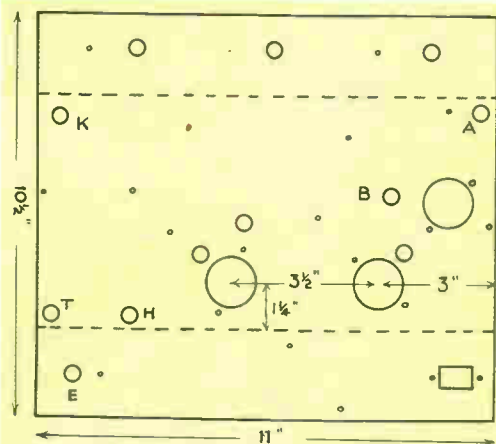

Fig. 1
Fig. 1 gives the chassis punching plan. The hole marked (B) is directly below the tag on the second (or back) section of the tuning gang condenser. (Incidentally, the gang condenser should be mounted so that the vanes rotate outward towards the centre of the chassis, not towards the V1 side of the chassis.) Do not, however, mount the gang yet.